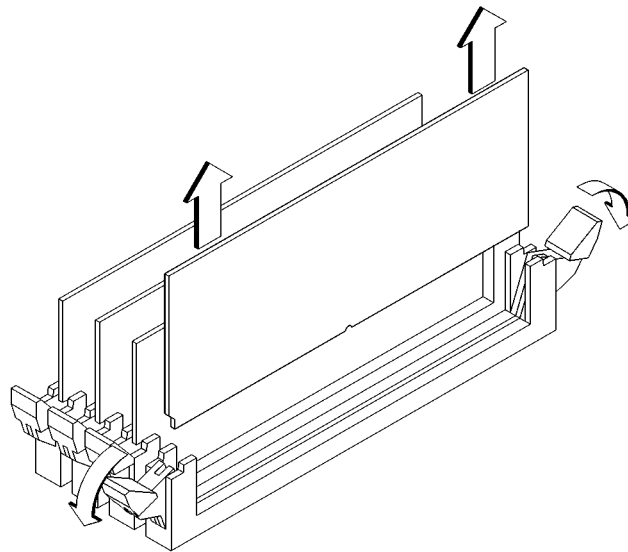

Figure 40 **Removing a Memory Module**
- 2 To remove a memory module, push the ejector tabs on each side of the module. Lift the memory module up and out of the connector and place it on a static-free surface. Figure 40 shows how to remove a memory module.